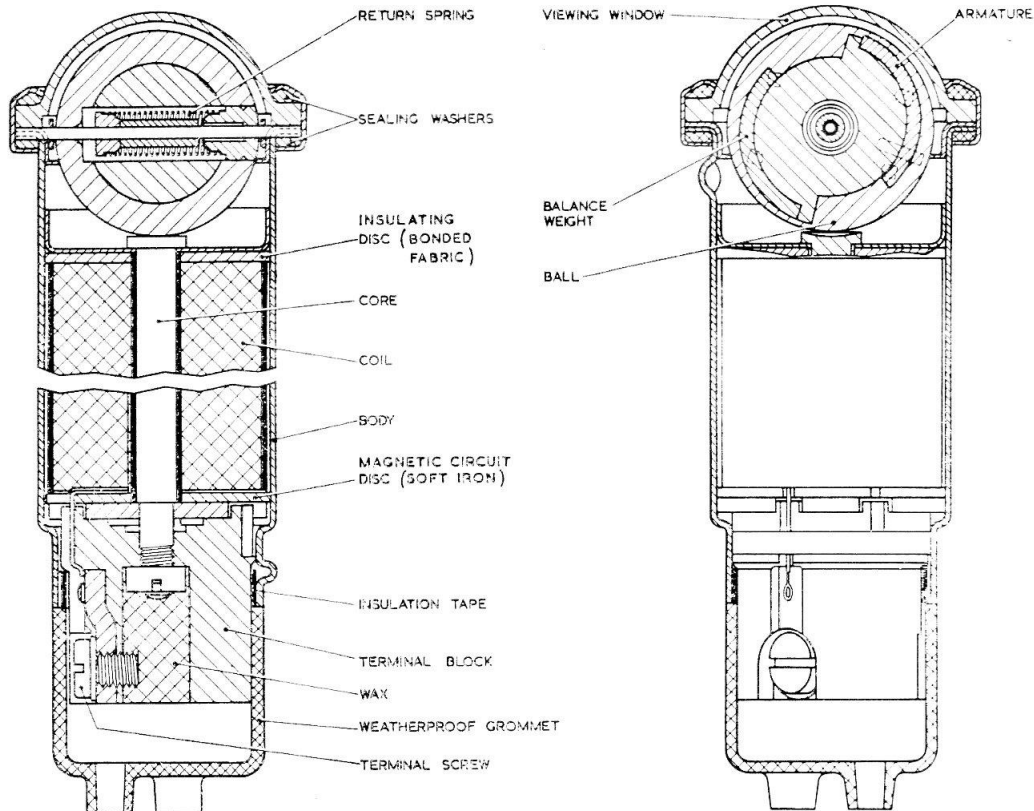
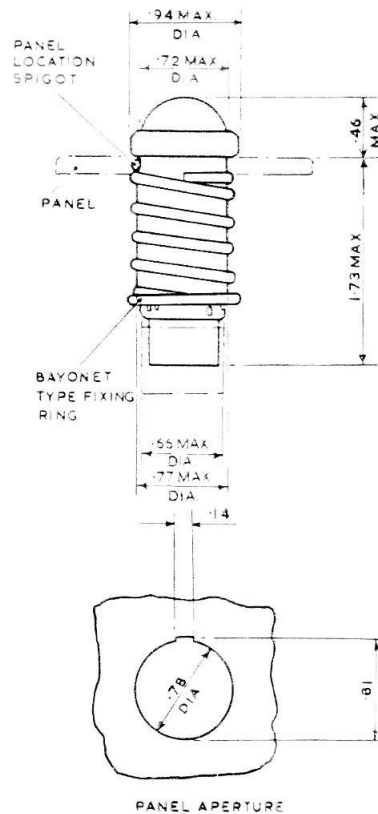

Fig. 1. Sectional views of 5165Y indicator
Fig. 2. Installation diagram
3. Sectional views of the Dowty two-position indicator are shown in fig. 1; fig. 2 is an installation diagram and shows the indicator mounted in a thin panel. A retaining spring fits over the indicator body between the panel and a bayonet type fixing ring. A location spigot on the top end of the indicator body fits in a cutaway in the panel to prevent the indicator rotating.
7. An installation diagram is shown in fig. 2 and illustrates the method of attaching the indicator to the panel. The panel cutaway should be as shown with the keyway at the TOP for vertical or sloping panels. The panel aperture should be as shown, with the cutaway at the TOP for vertical or sloping panels; in horizontal panels, the cutaway should be towards the edge of the panel furthest from the viewer.